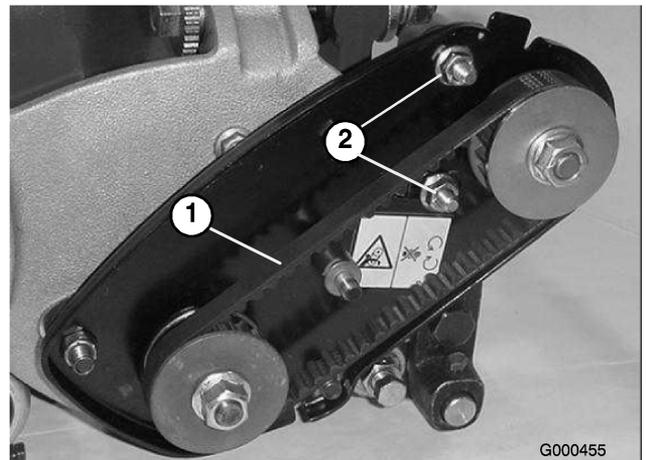

Figure 32
- A. Loosen the bearing housing mounting nuts (Figure 32).
- C. Tighten the bearing housing mounting nuts (Figure 32). Do not over-tension belt.